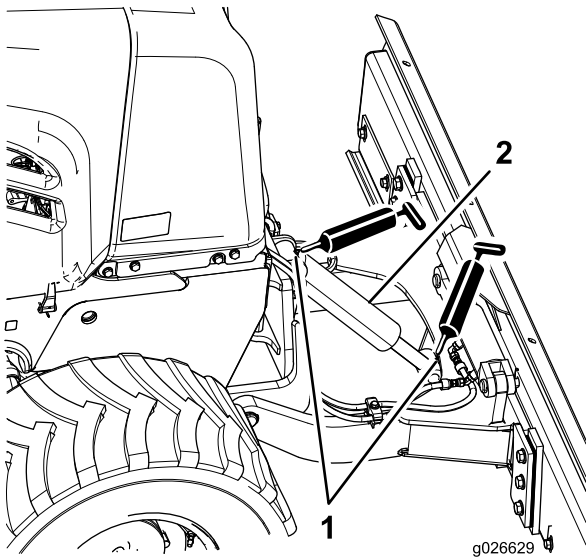

Figure 33
2. Connect the grease gun to the upper and lower grease fittings for the lift cylinder, and apply 3 pumps of grease to each fitting (Figure 33).